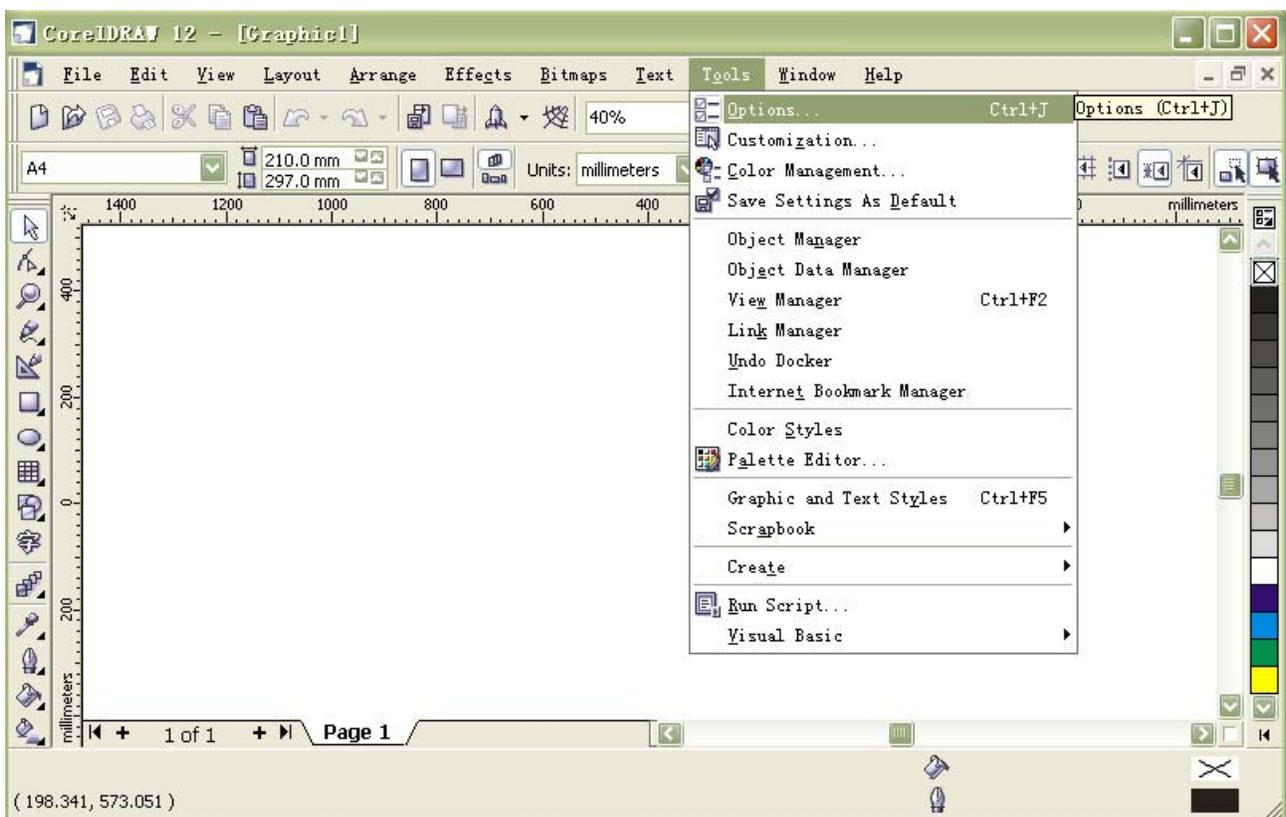
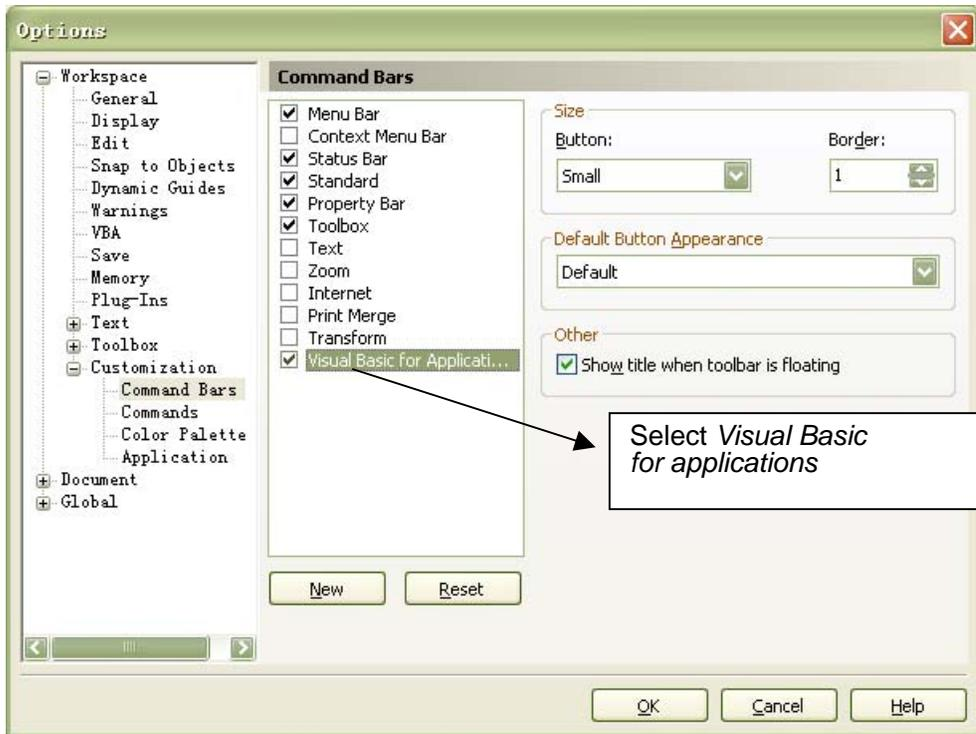
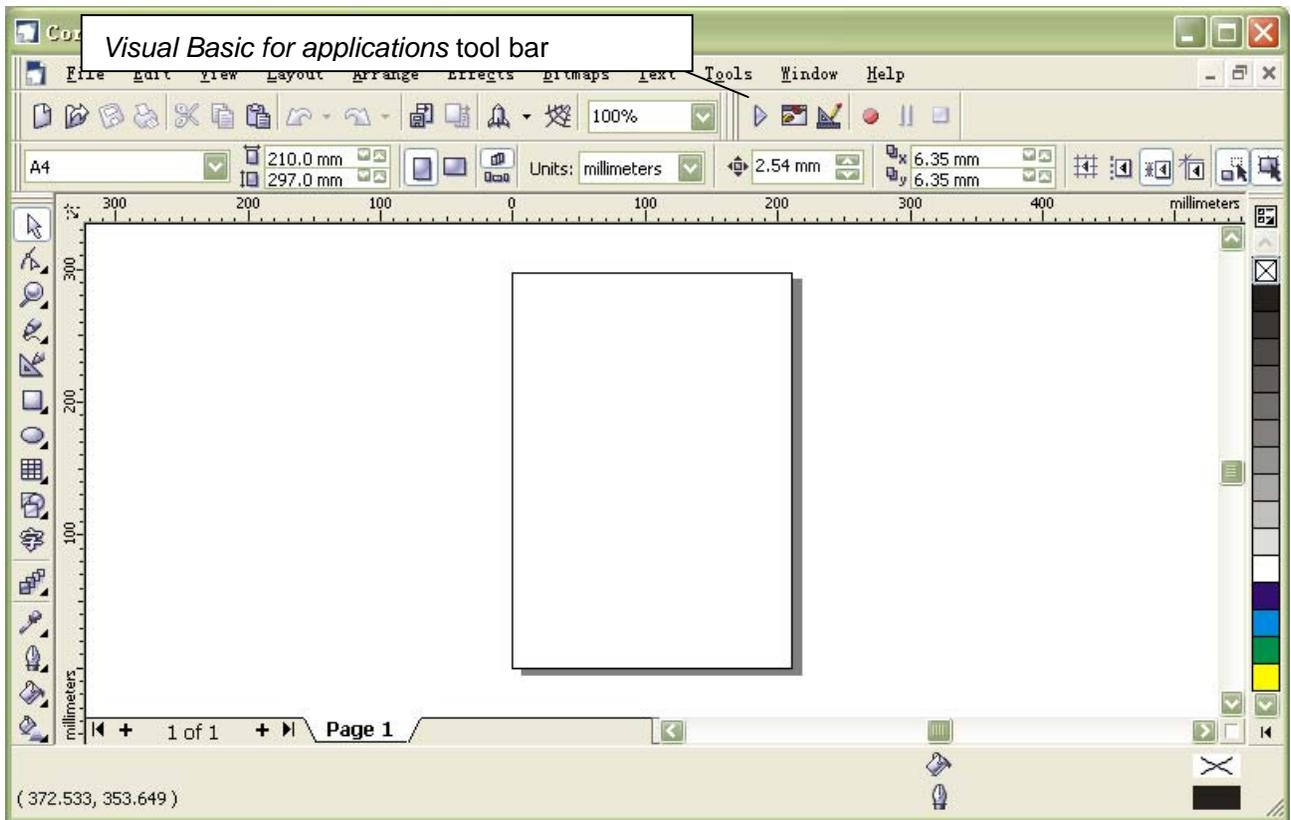

Figure 1-1
Figure 1-2
Figure 1-3
- (1) As shown in figure 1-1, enter the main menu of CorelDraw, choose CorelDraw menu, tools->options, a menu As shown in figure 1-2 will pop up:
(2)As shown in figure 1-2, select *Visual Basic for applications*, then click on *Ok* button. Now the main menu of CorelDraw is shown in figure 1-3: